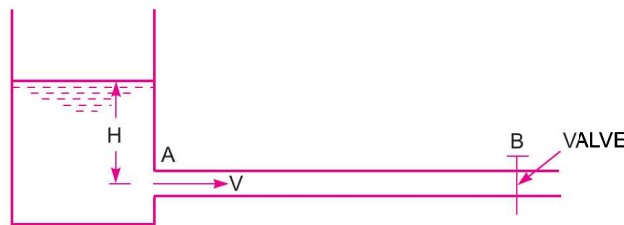

Fig. 11.32 Water hammer.
Consider a long pipe AB as shown in Fig. 11.32 connected at one end to a tank containing water at a height of H from the centre of the pipe. At the other end of the pipe, a valve to regulate the flow of water is provided. When the valve is completely open, the water is flowing with a velocity, V in the pipe. If now the valve is suddenly closed, the momentum of the flowing water will be destroyed and consequently a wave of high pressure will be set up. This wave of high pressure will be transmitted along the pipe with a velocity equal to the velocity of sound wave and may create noise called knocking. Also this wave of high pressure has the effect of hammering action on the walls of the pipe and hence it is also known as water hammer.
11.13.1 Gradual Closure of Valve. Let the water is flowing through the pipe AB shown in Fig. 11.32, and the valve provided at the end of the pipe is closed gradually.
Consider a pipe AB in which water is flowing as shown in Fig. 11.32. Let the pipe is rigid and valve fitted at the end B is closed suddenly.
11.13.3 Sudden Closure of Valve and Pipe is Elastic. Consider the pipe AB in which water is flowing as shown in Fig. 11.32. Let the thickness ' t ' of the pipe wall is small compared to the diameter D of the pipe and also let the pipe is elastic.